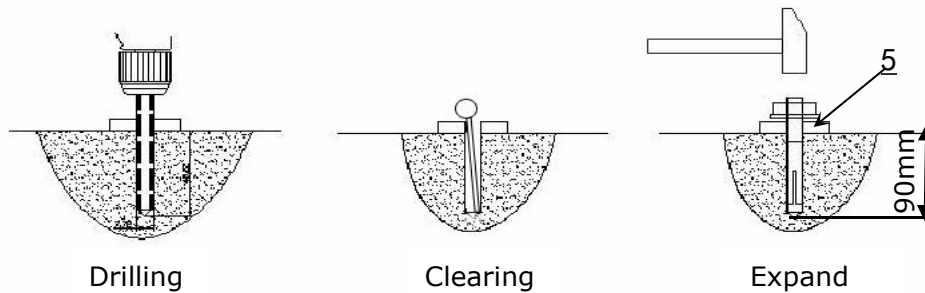

Fig. 17
2. Using the prescribed rotary hammer drill, and drill all the anchor holes and install the anchor bolts, do not tighten the anchor bolts first (**See Fig. 17**).